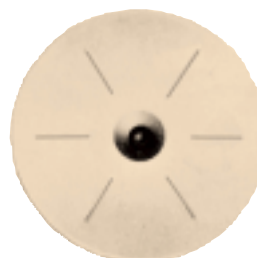
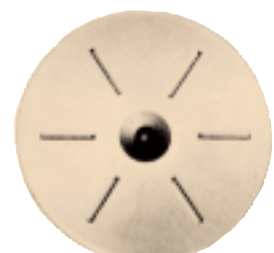

Fig. 1
Fig. 2
**The first (cutting) operation must be toward the face driver.** The pictures at right show the indentations made by the drive pins during the initial clamping stage (Fig. 1), and the final clamping stage (Fig. 2). Note the uniformity of each indentation. This uniformity indicates that every drive pin has penetrated the face to the same depth, assuring equalized drive by each pin during machining operations. Pin penetration in the initial clamping stage ranges from 0.003 to 0.005, and ranges from 0.010 to 0.020 in the final clamping phase.